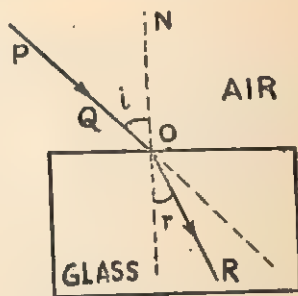

Fig. 11.12. Refraction from air to glass.
(1) When a ray of light travelling in one medium comes across the surface of another medium in an oblique way, the direction of its path in the second medium is changed, as shown in the Fig. 11.12 according to two laws, known as the **Laws of Refraction**. These are :